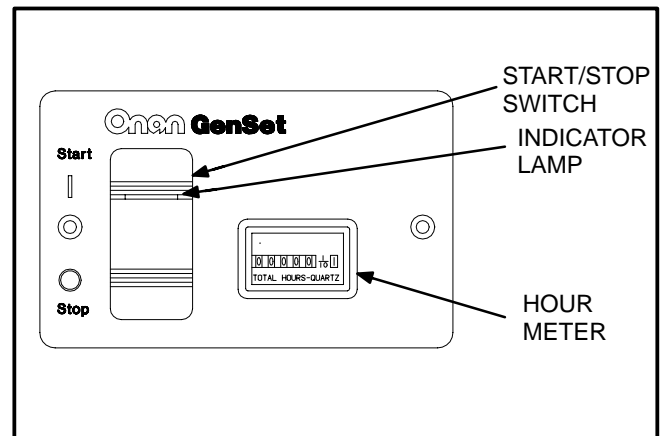

FIGURE 7-5. REMOTE PANEL WITH START/STOP SWITCH AND HOUR METER
- Remote panel with start/stop switch, indicator lamp, and hour (elapsed time) meter (see Figure 7-5).